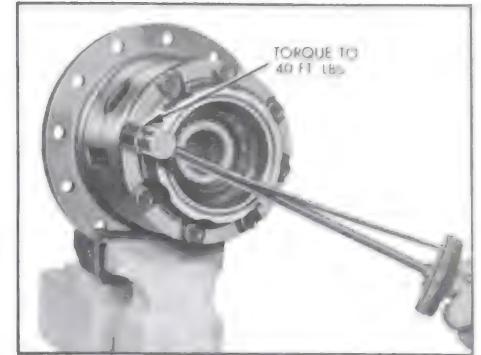

Figure 6-45—Torquing Differential Bolts
9. Install eight cover to flange half bolts and tighten evenly and alternately to 40 ft. lbs. torque. See Figure 6-45.